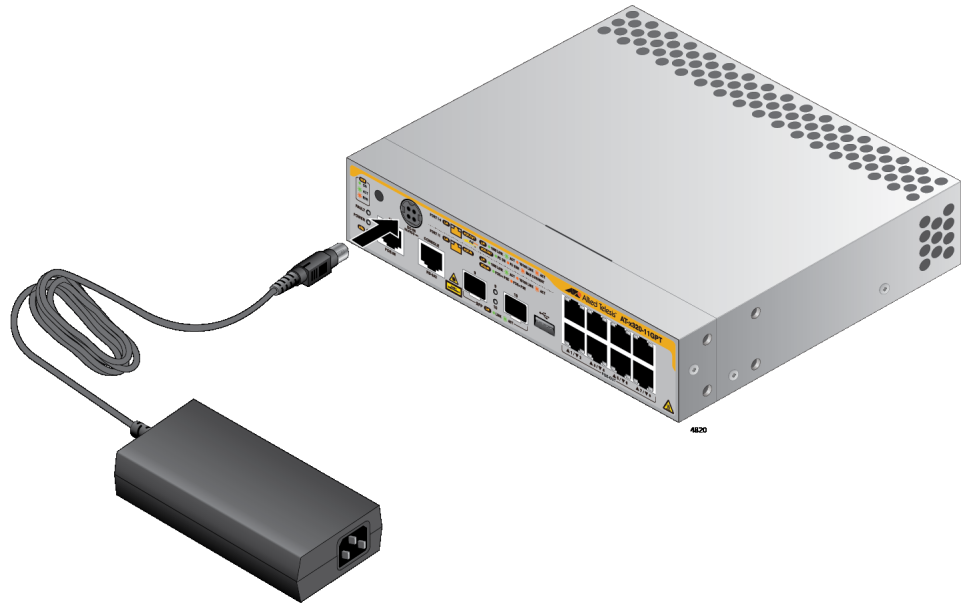

Figure 68. Connecting the PWR90ADP Power Adapter to the x320-11GPT Switch
1. Connect the DC plug on the PWR90ADP power adapter into the DC-IN power adapter on the front panel of the x320-11GPT switch. Refer to Figure 68.